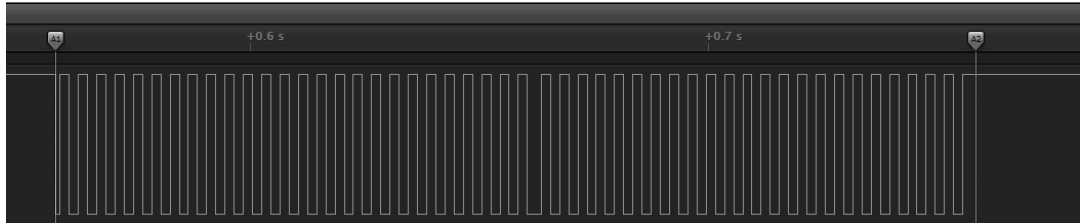

Figure 6: Digital pin toggling measured on PD0.
sleep(1) routine is added in the loop to delay the PC loop of 1 msec. The toggling of the GPIO is in fact limited by the USB refresh rate, which occurs at about 1 msec.. The max. total toggling rate is measured to be 250 Hz, see figure 6. It is observed that some slips of ± 1 msec happens with a rate of 2% of the toggling count. For values of sleeps lower than 1 msec., the toggling is not more reliable and toggling loss may occurs.